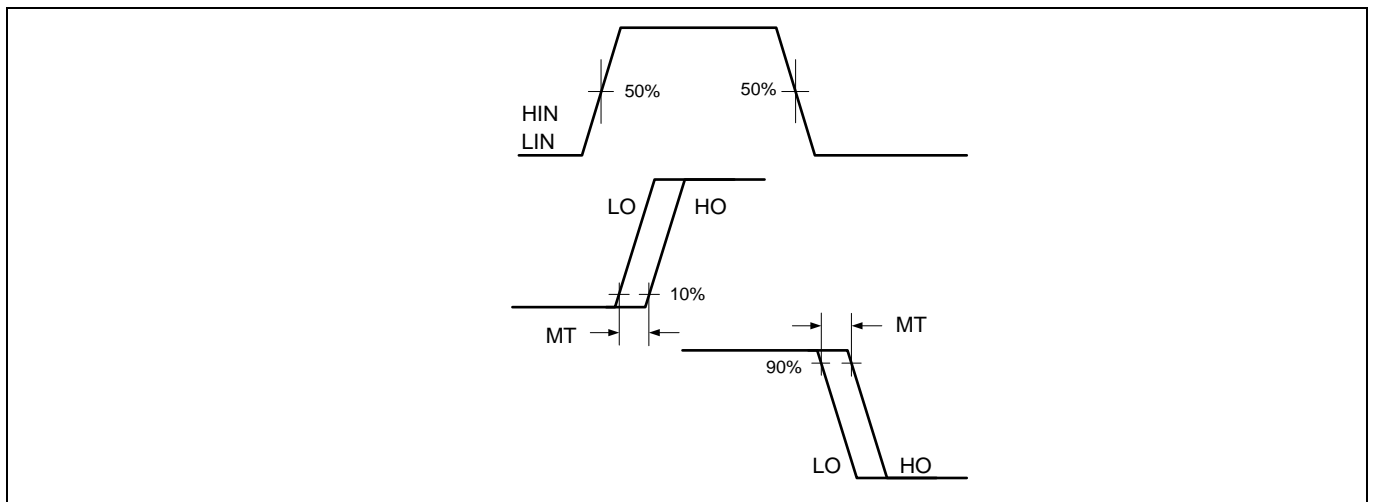

Figure 5 Delay matching waveform definition
IGI60L5050A1M is designed with propagation delay matching circuitry. With this feature, the integrated gate driver IC's response at the output to a signal at the input requires approximately the same time duration (i.e., t_{ON} , t_{OFF}) for both the low-side channels and the high-side channels as shown in **Figure 5**. The maximum difference is specified by the delay matching parameter (MT). The propagation turn-on delay (t_{ON}) of the integrated gate driver is matched to the propagation turn-off delay (t_{OFF}).